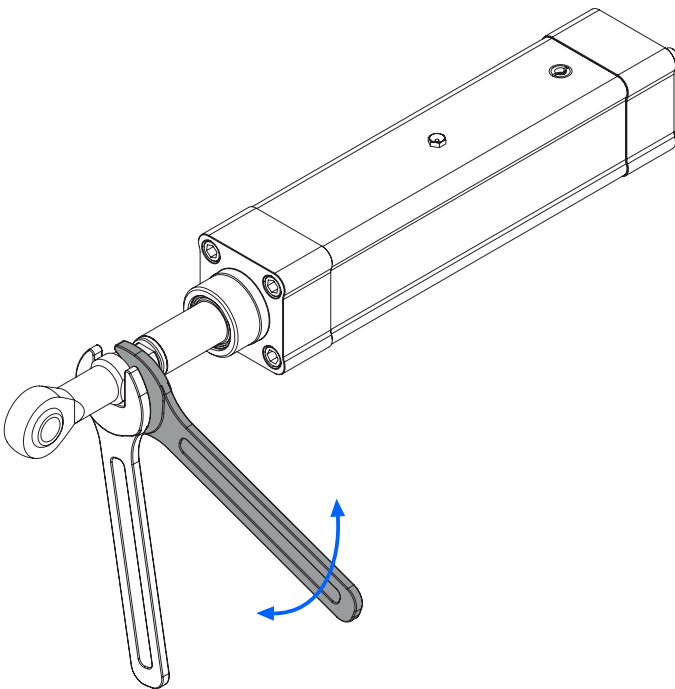

Figure 9: Tightening and loosening the hex nut to mount the piston rod accessory.
-  In the case of mounting the piston rod accessories (see Table 2) the piston rod must not be subjected to torsion when tightening and loosening the hex nut. In order to avoid torsion, use one wrench to hold the piston rod accessory in proper position, then tighten or loosen the hex nut with the second wrench, see Figure 9.